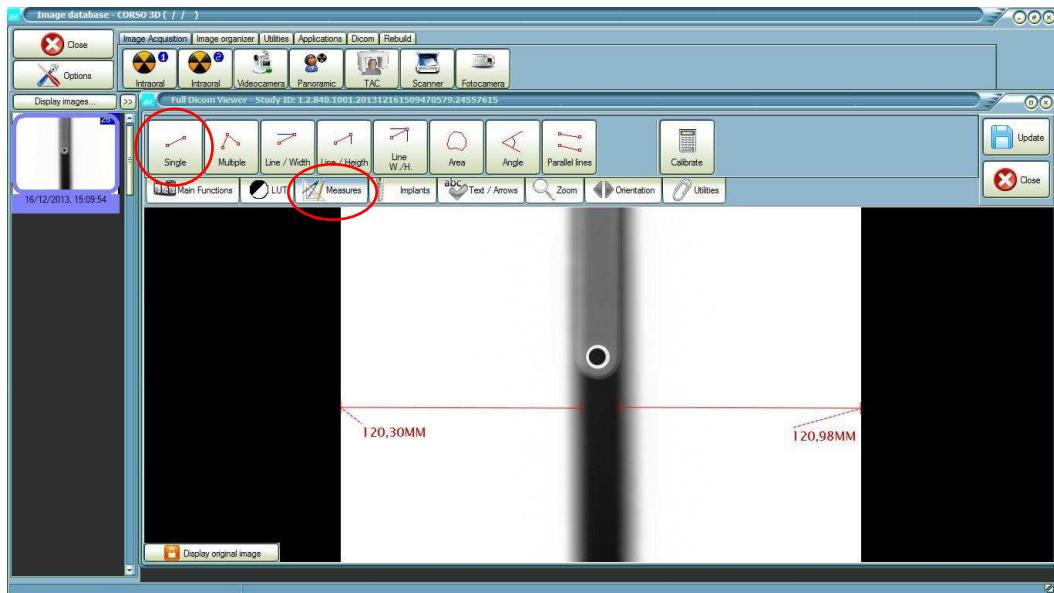

Figure 7-10
**24.** Select from the menu "Measure" the icon "Single" and measure the distance between the borders of the image and the borders of the central vertical stripe (Figure 7-10).